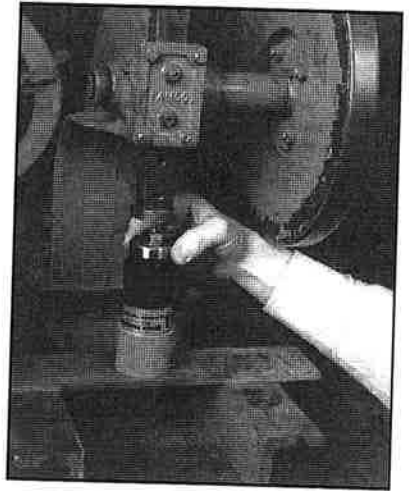

Fig. 13
16. Place the assembly in the arbor press on the steel plate, centered over the 1 7/8" hole or on the bearing press sleeve with the output end down (**Figure 13**).